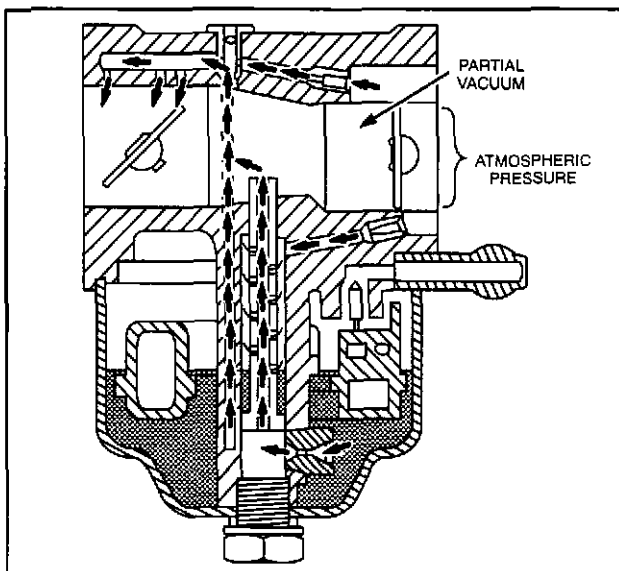

Fig. 9 - Choke Operation (Typical)
1. As the intake valve opens, a partial vacuum forms in the carburetor behind the choke valve, Fig. 9.